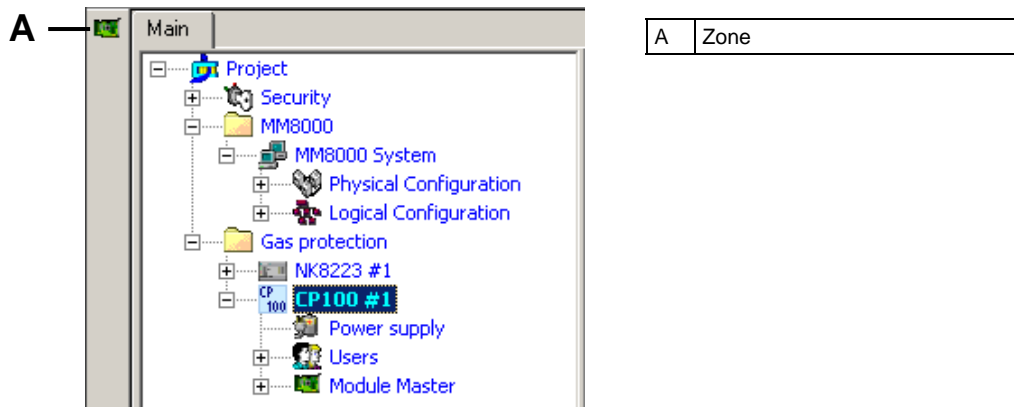

Fig. 15 Adding an optional module
5. If more modules are to be configured, select the main CP100 node, add one or two additional modules (Fig. 15), and then repeat steps 2 to 4.